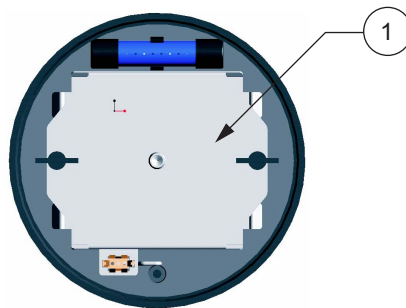

Figure 15 940 Flow Meter Battery Pack
4. Place the battery pack (Cat. No. 6608500) inside the battery compartment (Figure 15).